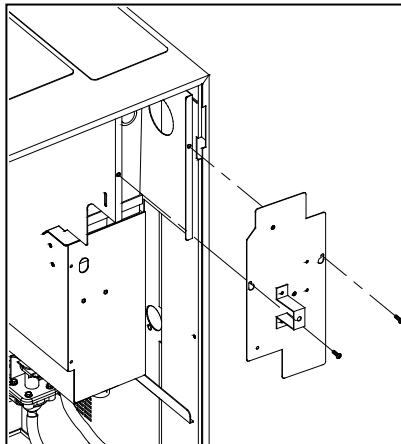

Figure 1 - Remove valve cover.
- a) Remove the valve cover (figure 1) on the front of the hot water tank.